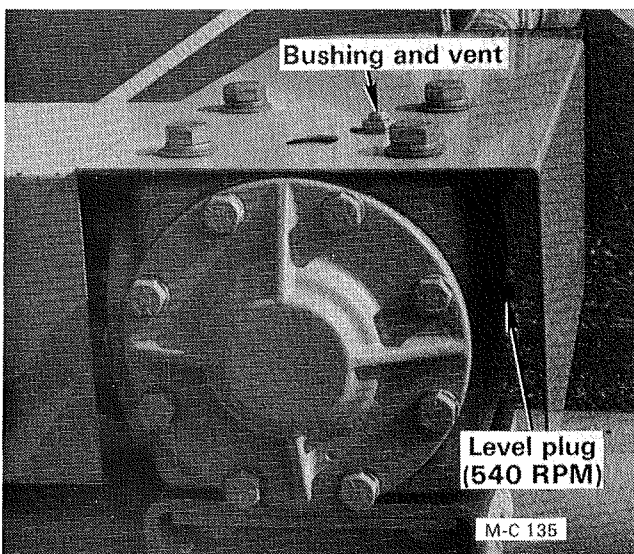

Figure 17
5. Periodically check the oil level in the gear box. Remove the oil level plug on the right side (540 RPM) or the rear (1000 RPM) of the gear box, see Figure 17. The oil level should be even with the bottom of the level plug hole. If not, remove the bushing and vent on top of the gear box and add Mobilfluid 423 multipurpose transmission lubricant or equivalent.